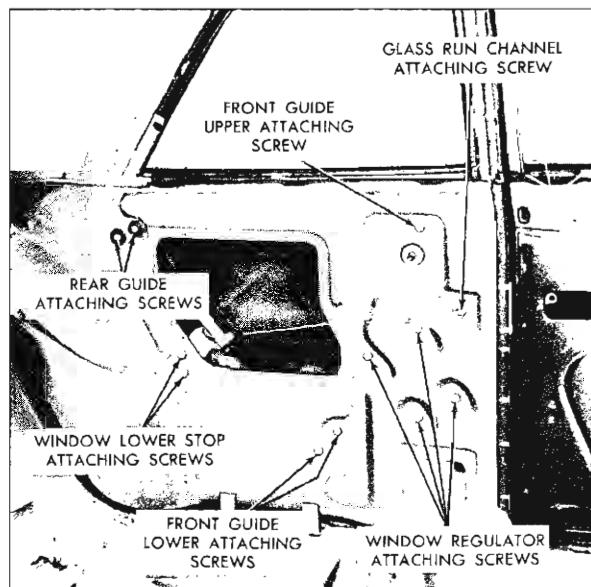

Fig. 4-6 Rear Quarter Hardware "11" Electric Styles
2. Remove access hole cover from inner panel. Loosen window front guide upper attaching screw. Remove window rear guide attaching screws and remove guide (Fig. 4-6).
The upper front corner of the rear quarter window should seat properly in the front glass run channel through the complete window lowering and raising cycle. To accomplish this, loosen the front and rear guide attaching screws (Fig. 4-6); then adjust the front guide forward and the rear guide upward and forward and retighten the attaching screws.
2. Remove rear quarter window glass run channel attaching screw (Fig. 4-6). Carefully disengage glass run channel retainers from lock pillar and side roof rail and remove run channel.
3. Remove front guide upper and lower attaching screws (Fig. 4-6). Disengage guide from roller on window lower sash channel; move front guide assembly rearward between panels sufficiently to allow upper end of guide to be started out through large access hole; then remove guide assembly.
3. Remove rear guide attaching screws (Fig. 4-6).
2. Remove access hole cover from inner panel. Remove front guide upper attaching screw and glass run channel attaching screw (Fig. 4-6).
4. Remove window regulator attaching screws (Fig. 4-6), disengage regulator arm roller from window lower sash channel cam and remove regulator assembly through large access hole.